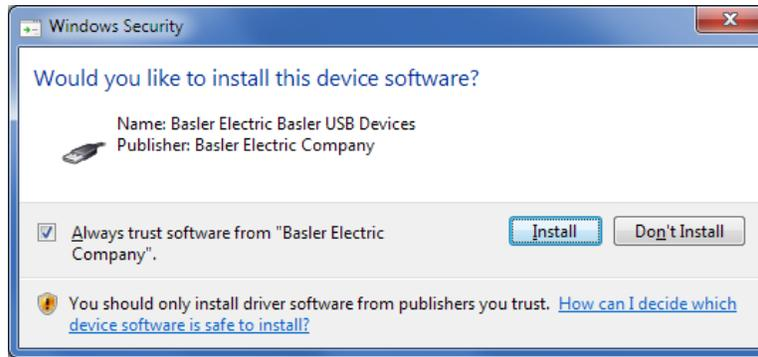

Figure 8-6. Windows Security
Step 6. If a Windows Security window (Figure 8-6) appears, click Install.